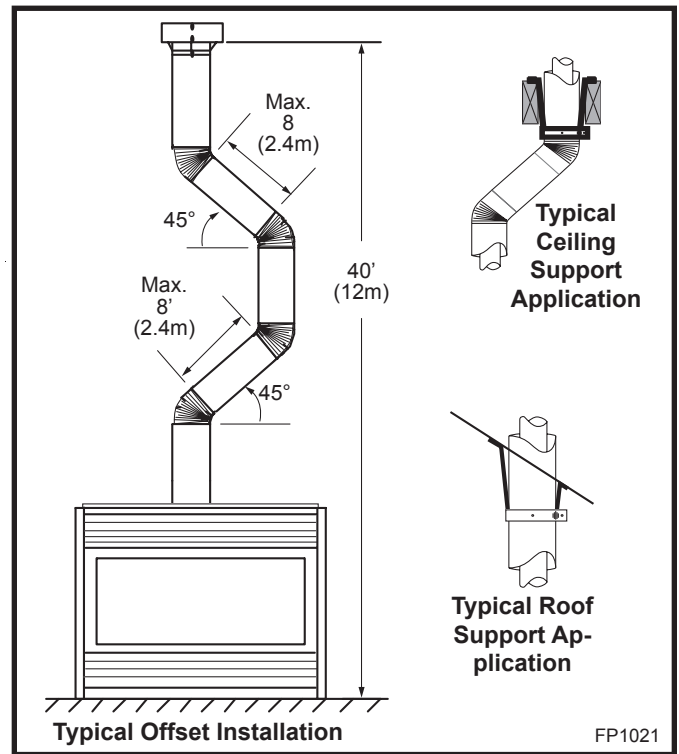
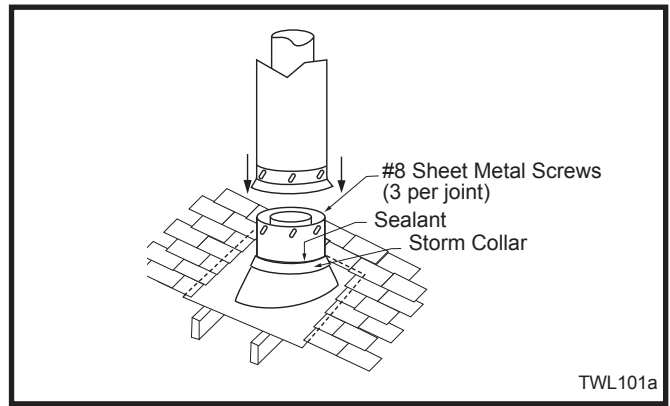

Fig. 33 Typical offset application.
Fig. 36 Roof flashing.
- Two sets of 45° elbows offsets within these vertical installations. From 0 to a maximum of 8' (2.4 m) of vent pipe can be used between elbows. (Fig. 33)
- 7DVCS must be used to support offsets. (Fig. 33) This application will require that you first determine the roof pitch and use the appropriate starter kit. (Refer to Venting Components List)
7. Install roof support (Fig. 33) and roof flashing making sure upper flange of flashing is below the shingles. (Fig. 36)
8. Install appropriate pipe sections until the venting is above the flashing. (Fig. 36)
**The enlarged ends of the vent section always face downward. (Fig. 36)**